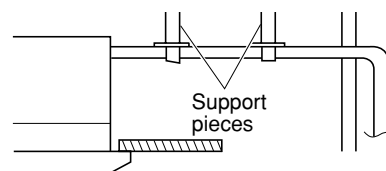

Fig. 3-46
- Do not apply force to the piping on the unit side when connecting the drain pipe. The pipe should not be allowed to hang unsupported from its connection to the unit. Fasten the pipe to a wall, frame, or other support as close to the unit as possible. (Fig. 3-46)